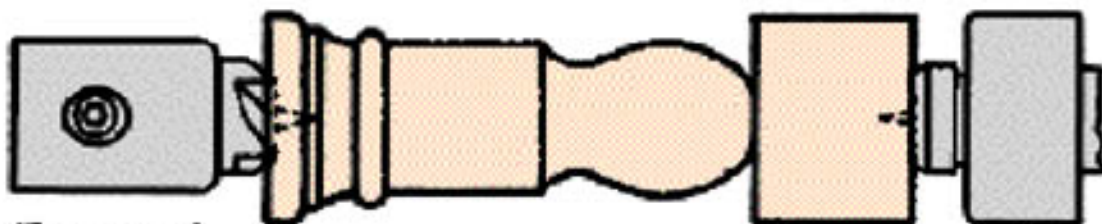

FIGURE 1
Step 2: When you're ready for the Knights, mount your stock on center and first turn just the base and part of the head (see Figure 1). Then, set the